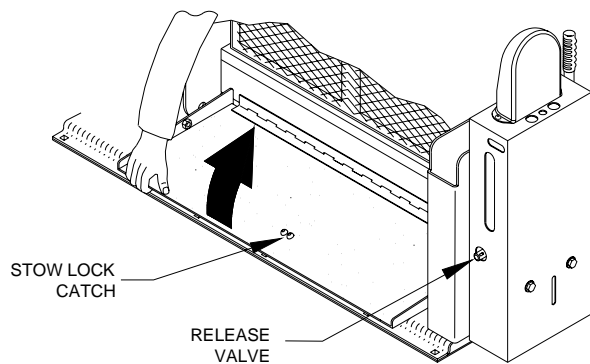

FIGURE 2-11: RAISE BRIDGEPLATE
- a. Refer to **Figure 2-11**. Override the Stow-Lock feature by lifting bridgeplate by hand. This will separate the Stow-Lock catch (fastened to underside of bridgeplate) from Stow-Lock latch (fastened to baseplate). If Stow-Lock is difficult to separate, use manual backup pump to raise platform slightly to remove tension from catch; refer to "Stow Platform" paragraph in this section for manual backup pump details.